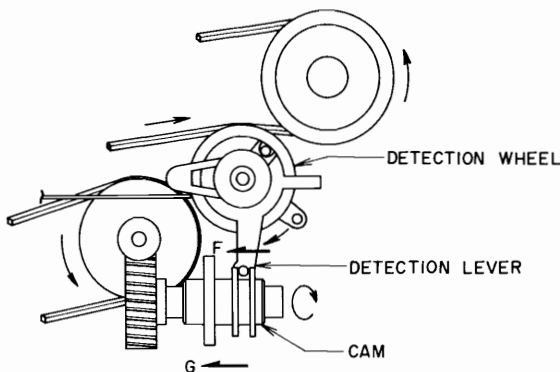

Fig. 5
- 1) Because the detection wheel is turning clockwise as indicated in Fig. 5, friction between the detection wheel and the detection lever causes constant pressure to be exerted on the detection lever in the direction of the arrow F, while the detection lever exerts force F on the cam in the direction of the arrow G.
- 3) Fig. 6(b) illustrates the motion of the pawl mounted on the cam with the plunger viewed from above. Since force is applied to the pawl in the direction of G as indicated in Fig. 5, the pawl rotates on the left hand of the plunger, in order of A, B and C.
- 4) When the tape transport stops, the detection wheel driven by the counter belt stops rotating and the force in the direction of the arrow G which was exerted on the cam as shown in Fig. 5 ceases. In this case, the motor continues rotating, keeping the worm pulley turning. Therefore, when the cam continues to rotate with the pawl shifted from A to B position, the pawl does not move in the direction of C but turns in the center of the plunger as shown in Fig. 6(b).